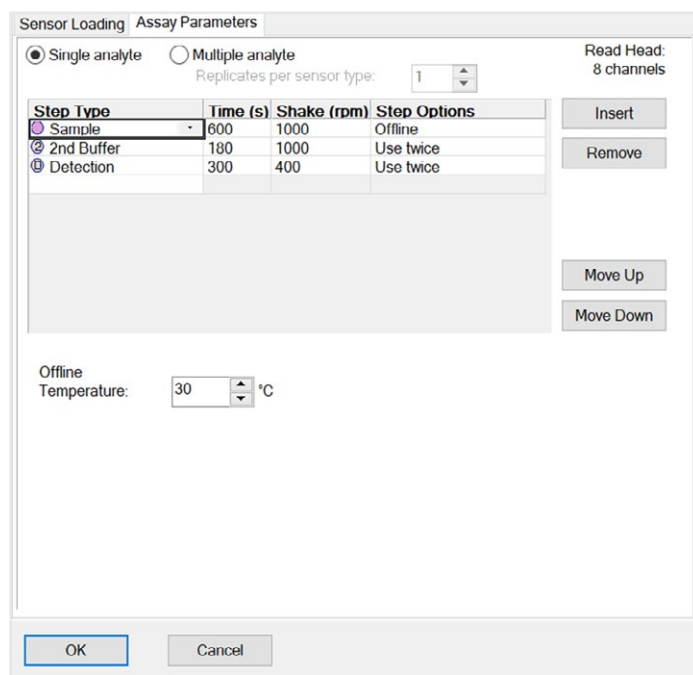

Figure 20: Assay Parameters window from Octet® BLI Discovery Software version 12.2.
11. Launch Octet® BLI Discovery Software and choose the Advanced Quantitation option in the Experiment Wizard. Use the advanced quantitation template “Glycan Screening_Mannose_8CH_96W_Sidekick.fmf” or “Glycan Screening_Mannose_16CH_96W_Sidekick.fmf” for this format. The assay parameters can be modified if needed in the Assay Setting window by clicking Modify (Figure 20). Click OK once the assay parameters have been defined.